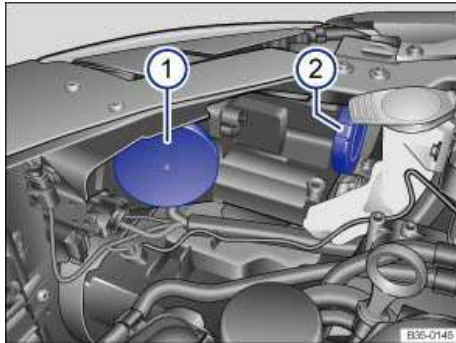
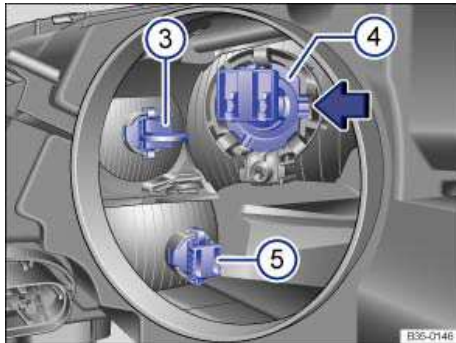

Fig. 195 In the engine compartment: Cover for HID headlights 1, cornering light, daytime running light, parking light and turn signal 2.
Fig. 196 Removing and installing the bulbs for the daytime running light and parking light 3, cornering light 4 or turn signal 5.
3.	Pull the rubber cover on the rear side of the headlight to the side ⇒ fig. 195 (2) .
4.	Remove the bulb holder ⇒ fig. 196 (3) with the bulb and pull it toward the rear out of the headlight housing.
7.	Insert the bulb holder with the new bulb in the original position in the headlight housing (3) .
8.	Install the rubber cover ⇒ fig. 195 (2) .
3.	Pull the rubber cover on the rear side of the headlight to the side (2) .
4.	Press in the direction of the arrow to remove the bulb holder ⇒ fig. 196 (4) with the bulb and pull it toward the rear out of the headlight housing.
7.	Insert the bulb holder with the new bulb in the original position in the headlight housing (4) and press opposite to the direction of the arrow. The front of the bulb holder must fit correctly in the cutout on the headlight housing (arrow).
9.	Install the rubber cover ⇒ fig. 195 (2) .
4.	Press downward to remove the bulb holder ⇒ fig. 196 (5) with the bulb and pull it toward the rear out of the headlight housing.
7.	Insert the bulb holder with the new bulb in the original position in the headlight housing (5) and press upward.